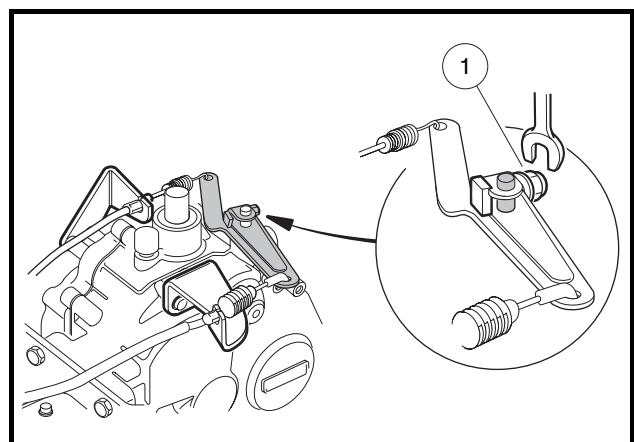

Figure 16-31 Governor Arm
18. Loosen, but do not remove, the governor arm retaining bolt (1) (**Figure 16-31, Page 16-13**). Remove the governor arm from the shaft. Do not disconnect cables.